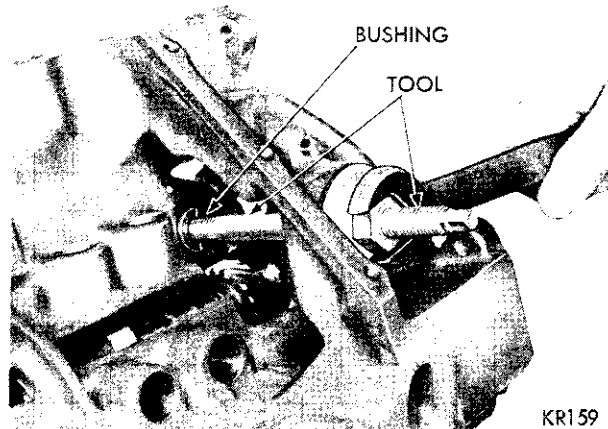

Fig. 31—Removing Distributor Drive Shaft Bushing
(1) Insert Tool C-3052 into the old bushing and thread down until a tight fit is obtained.
(2) Hold remover screw and tighten nut until bushing is removed, (Fig. 31).